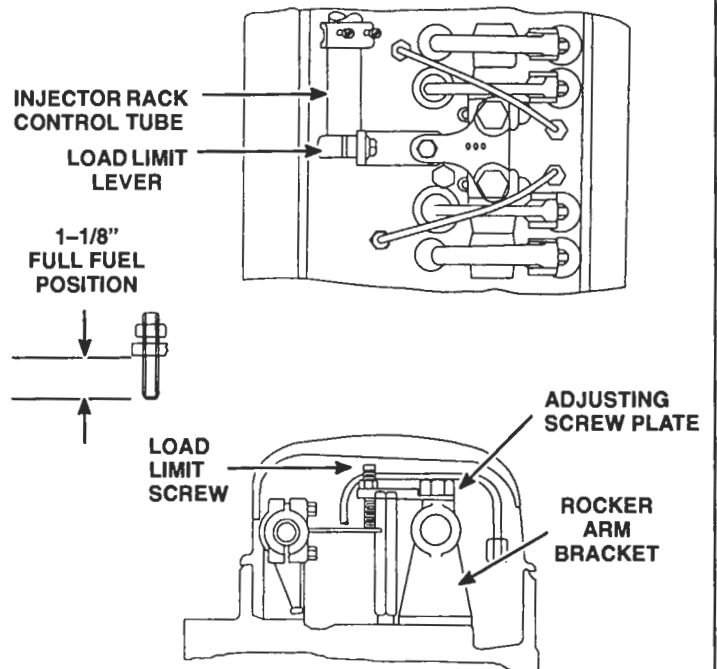

Figure 2. Power Control Device
10. The power control (torque limiting) device (Figure 2.) is used on some vehicle engines to limit the maximum horsepower output at the wheels without diminishing the performance at lower speeds where full power may be required. It limits the horsepower at, or just below, the normal full-load governed speed. These limiting characteristics are proportionately lessened as the engine speed is reduced and the horsepower required is reduced.